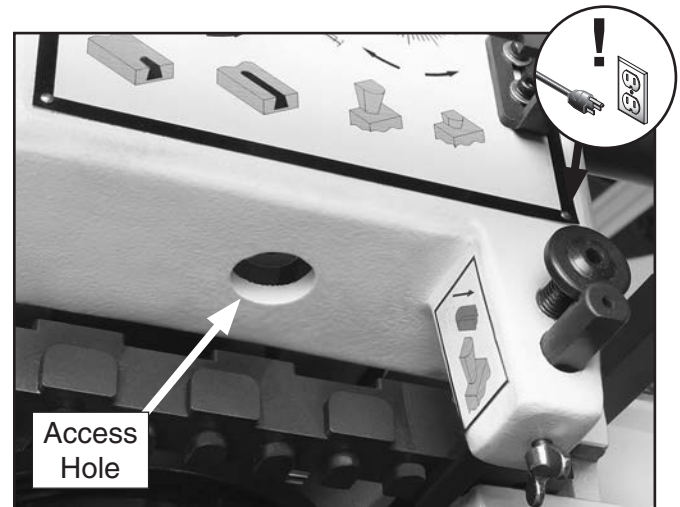

Figure 59. Dust plug removed to see bottom of cutter spindle for belt removal.
- Remove the dust plug shown in **Figure 59** to access the bottom of the belt.